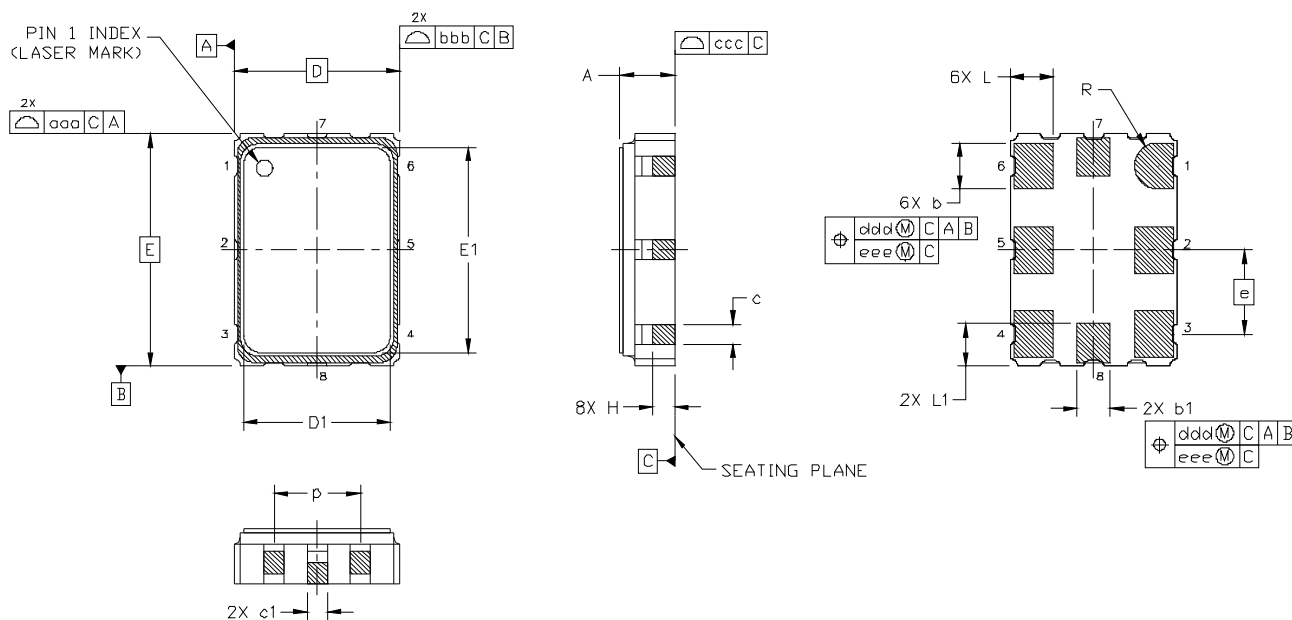

Figure 2. Si554 Outline Diagram
Figure 2 illustrates the package details for the Si554. Table 12 lists the values for the dimensions shown in the illustration.
- Added crystal impedance pin in Figure 2 on page 11 and Table 12 on page 11.